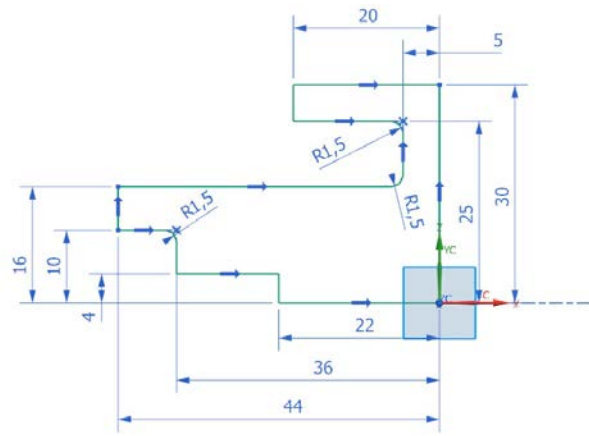

Figure 4-117 Dimensioned sketch of the revolved feature
3. Draw the sketch of the revolved feature and add the required geometric and dimensional constraints to it, as shown in Figure 4-117.